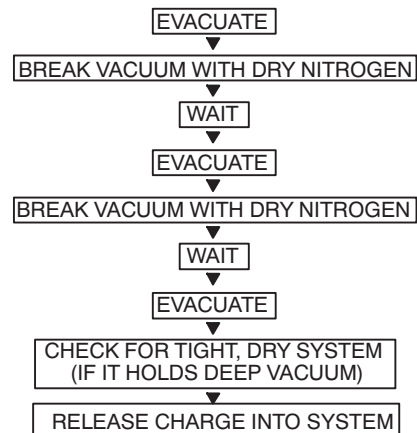

Fig. 16 — Triple Evacuation Method
Proceed as follows (see Fig. 16).
5. Repeat this procedure as indicated in Fig. 16. The system is now free of any contaminants and water vapor.